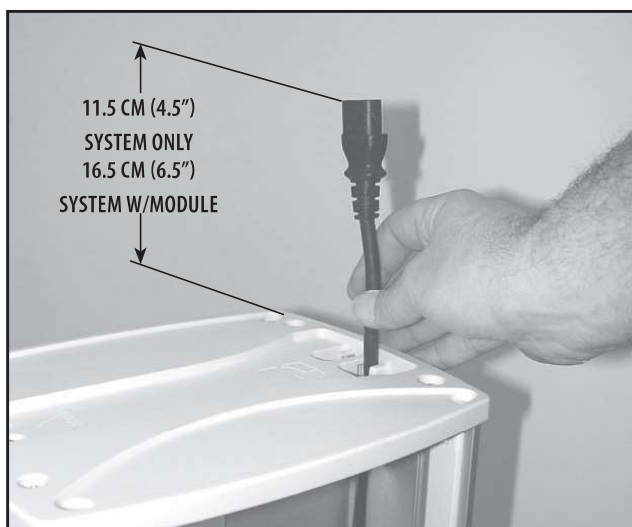

FIGURE 6.50
2. Allow approximately 11.5 cm (4.5") of the power cord extending through the top of the cart for connecting to system. If the system is equipped with an optional NiMH Battery, Laser, or Channel 3/4 Electrotherapy Module, it will be necessary to allow 16.5 cm (6.5") of the Power Cord extending through the top of the Therapy System Cart. **See Figure 6.50.**